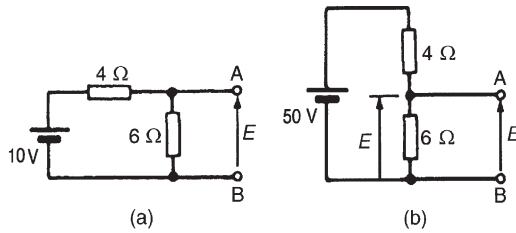

Figure 13.30
- The open-circuit voltage,  $E$ , across terminals  $AB$  in Fig. 13.30(a) is the same as the voltage
across the  $6\ \Omega$  resistor. The circuit may be redrawn as shown in Fig. 13.30(b)